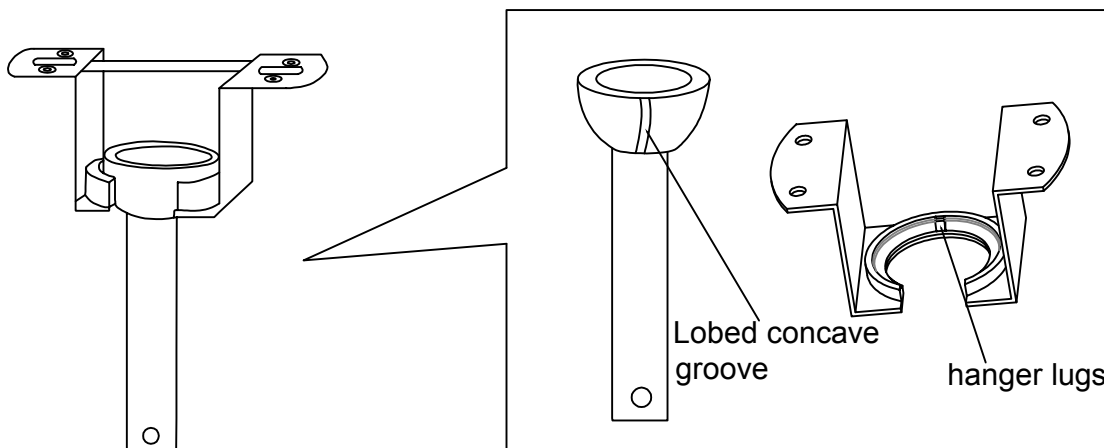

Figure 2.3
- Place the lobes in the hanger and turn the pipe so that the groove on the lobes engages the lugs on the dome(inside the hanger) ,The lug groove must engage the hanger lug.(Figure 2.3)